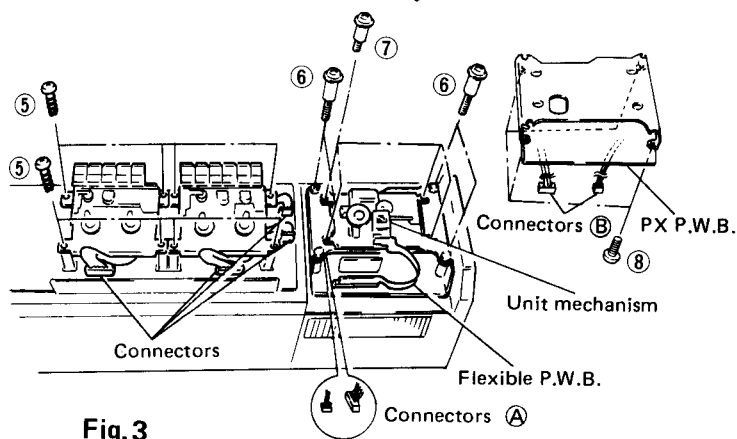
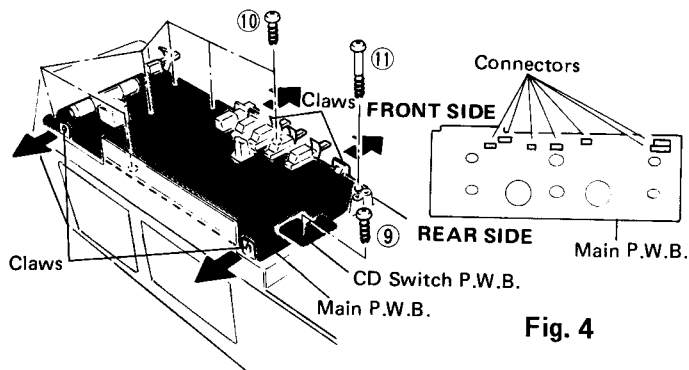
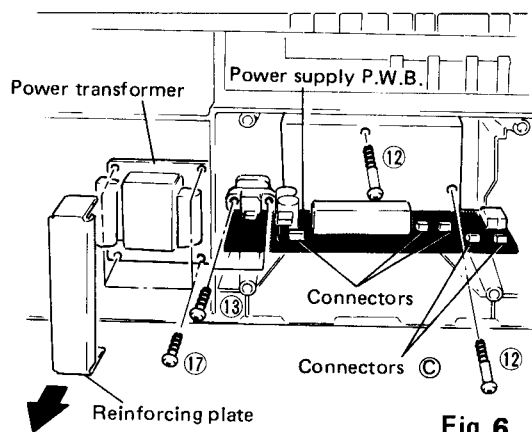

Fig. 3
Fig. 4
Fig. 6
- (3) **Cassette chassis (Fig. 3)**
- (4) **Unit Mechanism (Fig. 3)**
- (1) **CD switch P.W.B. (Fig. 3, 4)**
Remove one screws ⑩ (Fig. 4) and two connectors ⑪ (Fig. 3).
- (2) **Main P.W.B. (Fig. 4)**
(4) PX P.W.B. (Fig. 3, 6)
Remove four screws ⑥ and four screws ⑧. Then remove two connectors ⑨, the Flexible P.W.B., two connectors ⑩ (Fig. 3) and two connectors ⑪ (Fig. 6).
(5) Power supply P.W.B. (Fig. 6)
3. How to remove Power transformer (Fig. 6)